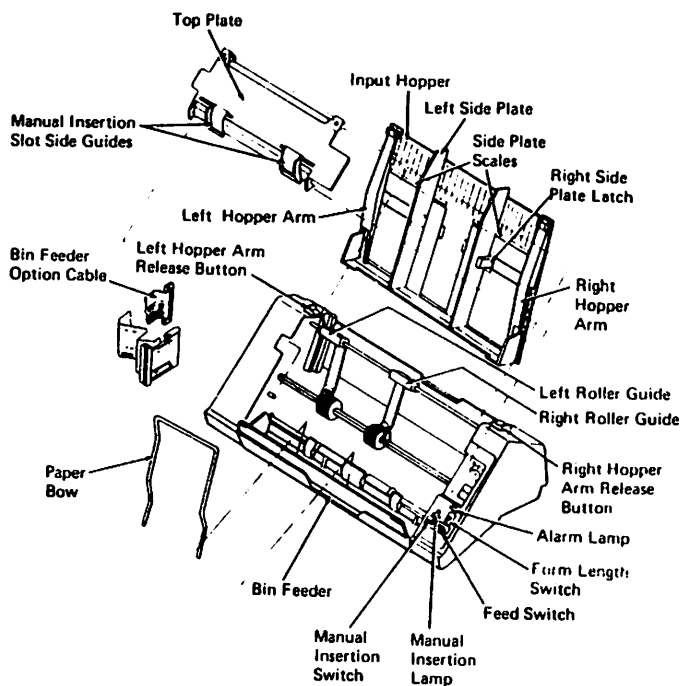

Figure 10 Single-bin feeder
Perform the following steps to install the single-bin feeder (Figure 10).
7. Install the top plate and the paper bow on the bin feeder as shown in Figure 10.